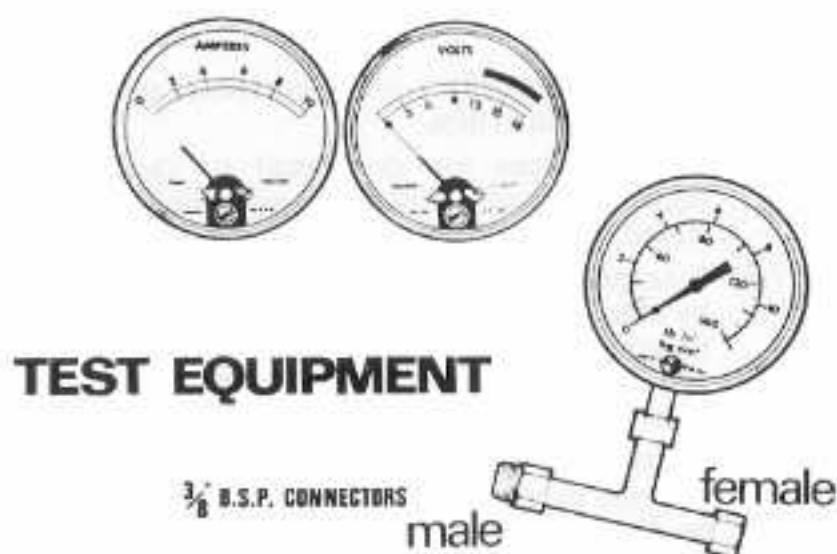

Fig. 13
- (i) Pressure gauge (see Figure 13) scaled for reading up to at least 160 lbf/in² (1103.20 kN/m²).